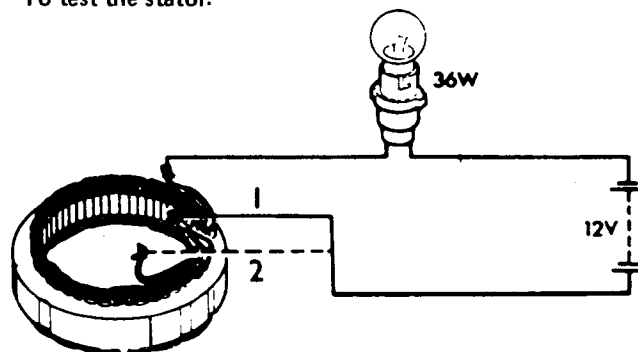

Fig O6.5
- (1) Refer to Fig O6.5. Check continuity of stator windings between any pair of wires by connecting in series a 12-volt battery and test lamp of not less than 36 watts. Failure of the test lamp to light means that part of the stator winding is open circuit and a replacement stator must be fitted.